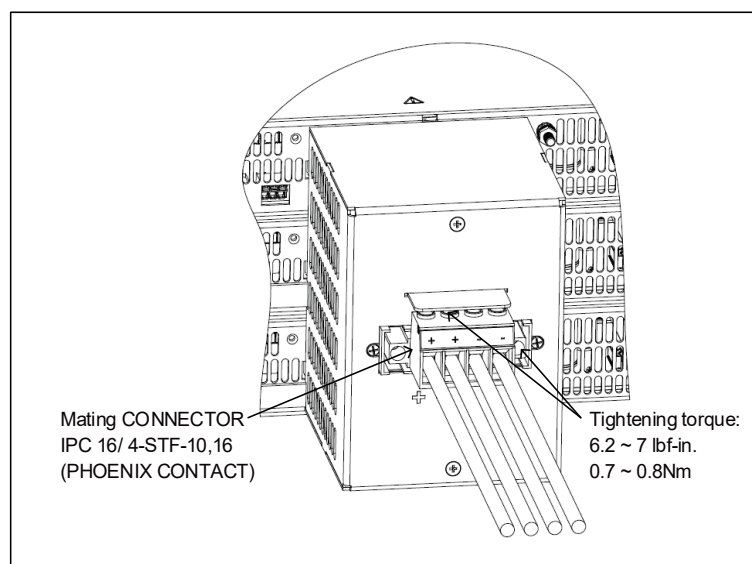

Figure 4-32: Load Wires Connection to the Output Plug
3. Insert the stripped wires into the terminals and tighten the terminal screws securely (see Figure 4-32, 15kW is shown, it applies to 10kW as well). Tightening torque: 15-15.9 Lbf-inch. (1.7-1.8Nm).
4. Tighten the mating connector to the power supply rear panel (see Figure 4-32, 15kW is shown, it applies to 10kW as well). Tightening torque: 15-15.9 Lbf-inch. (1.7-1.8Nm).